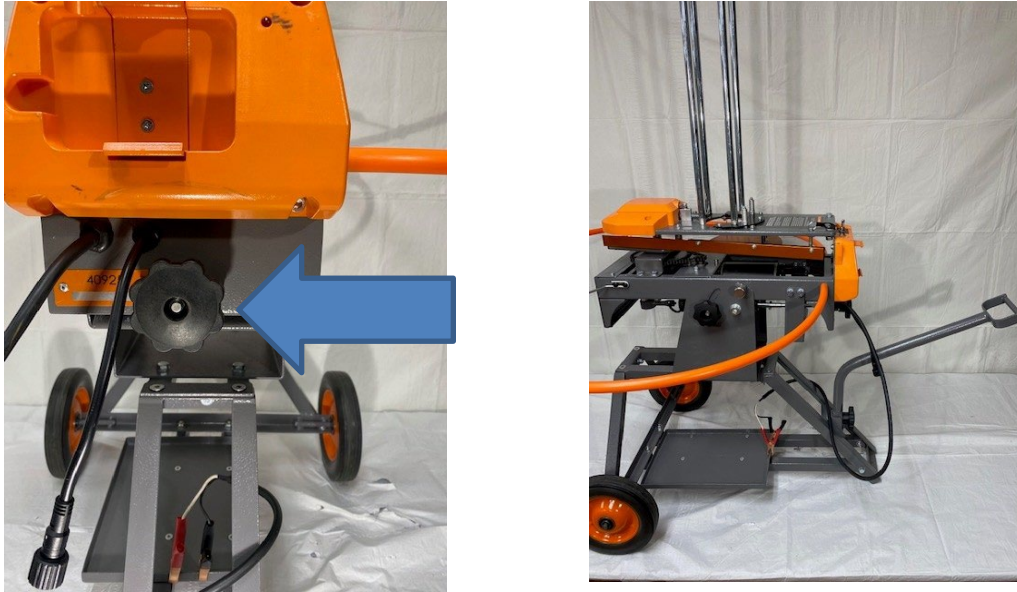

Figure 44
2. Use caution during this procedure. To adjust the mainspring to the un-cocked position, start using the safe release switch, firing the trap one time. Next, use the handle to release the spring tension by pressing down on the handle with one hand; with your other hand, unthread the hand nut (s4) until the mainspring bolt is threaded into the back of the hand nut. The trap is now in the un-cocked position. (see figure 44)